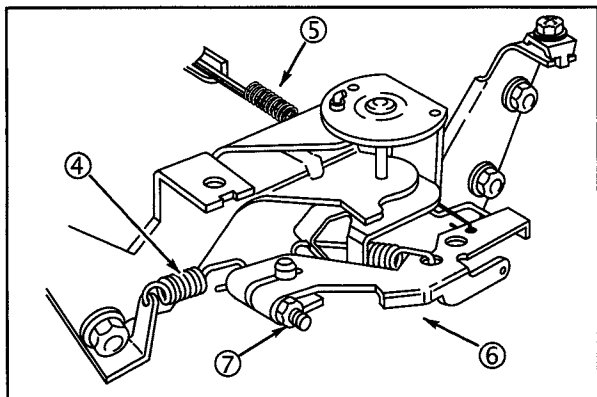

Fig. 13
5. Reassemble governor lever (6) to shaft, **Fig. 13**.
- a. Reassemble governor link and spring (5) at carburetor.
- b. Reassemble governed idle spring (4).
**NOTE:** DO NOT tighten nut (7) at this time.